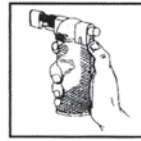

Figure 1
3. Use your thumb, and pull down the Safety Switch. (see Figure 1)